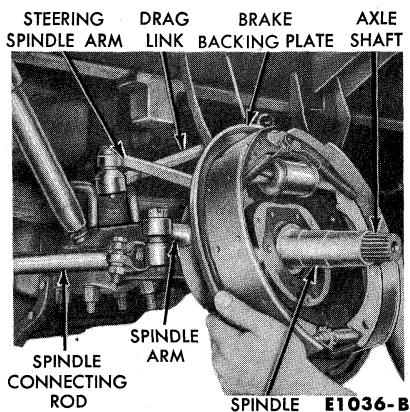

FIG. 18—Brake Carrier Plate Removal or Installation
5. Remove the cap screws which retain the brake carrier plate and spindle to the spindle arm. Remove the brake carrier plate and spindle (Fig. 18). Install the oil baffle.
1. Position the spindle and the brake carrier plate on the steering arm, and then install the retaining cap screws (Fig. 18). Install the oil baffle.